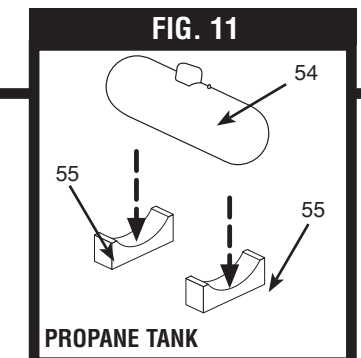

FIG. 11
1. Assemble white metal castings (FIGS. 11 - 16). Paint if necessary.